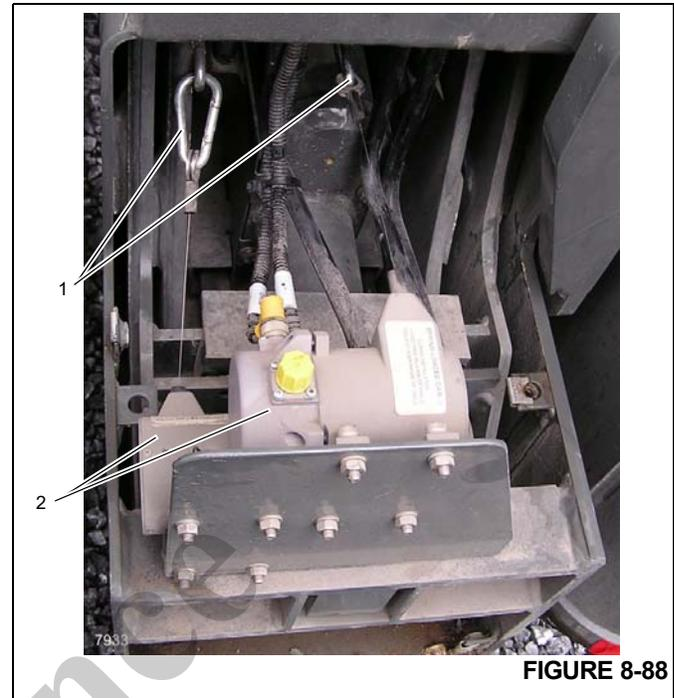

FIGURE 8-88
2. Remove the OMS string potentiometer spring clip (1), (Figure 8-88) from the attaching point on the outrigger beam.
5. Remove the OMS string potentiometer (2), (Figure 8-88).
1. Install string potentiometer inside outrigger beam (Figure 8-88).
3. Attach the OMS string potentiometer spring clip (1), (Figure 8-88) to the attaching point on the outrigger beam.